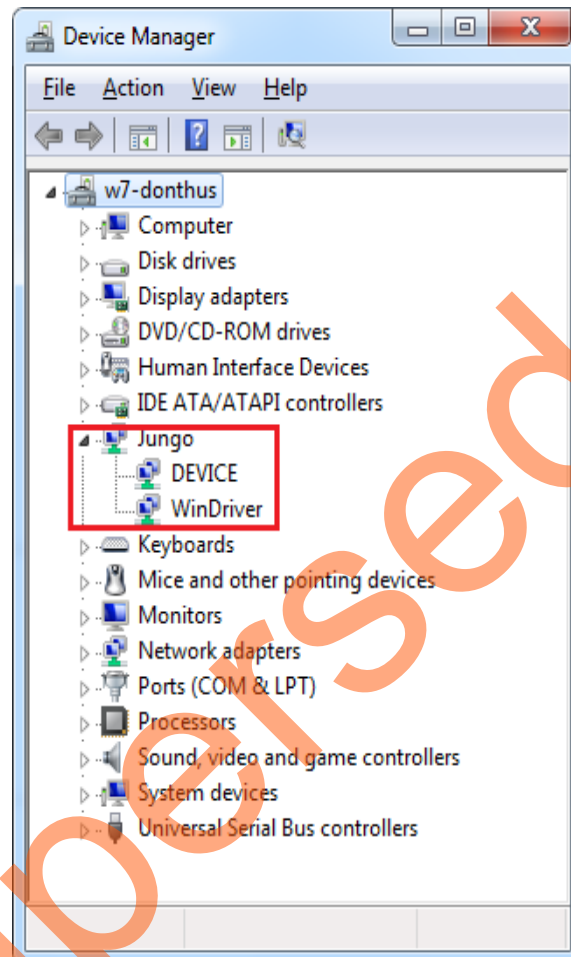

Figure 17 • Device Manager - PCIe Device Detection
1. Check the Host PC **Device Manager** for the drivers. Figure 17 shows an example Device Manager window highlighting the Jungo drivers installed. If the device is not detected, power cycle the SmartFusion2 Advanced Development Kit or IGLOO2 Evaluation Kit and click **scan for hardware changes** in **Device Manager**.